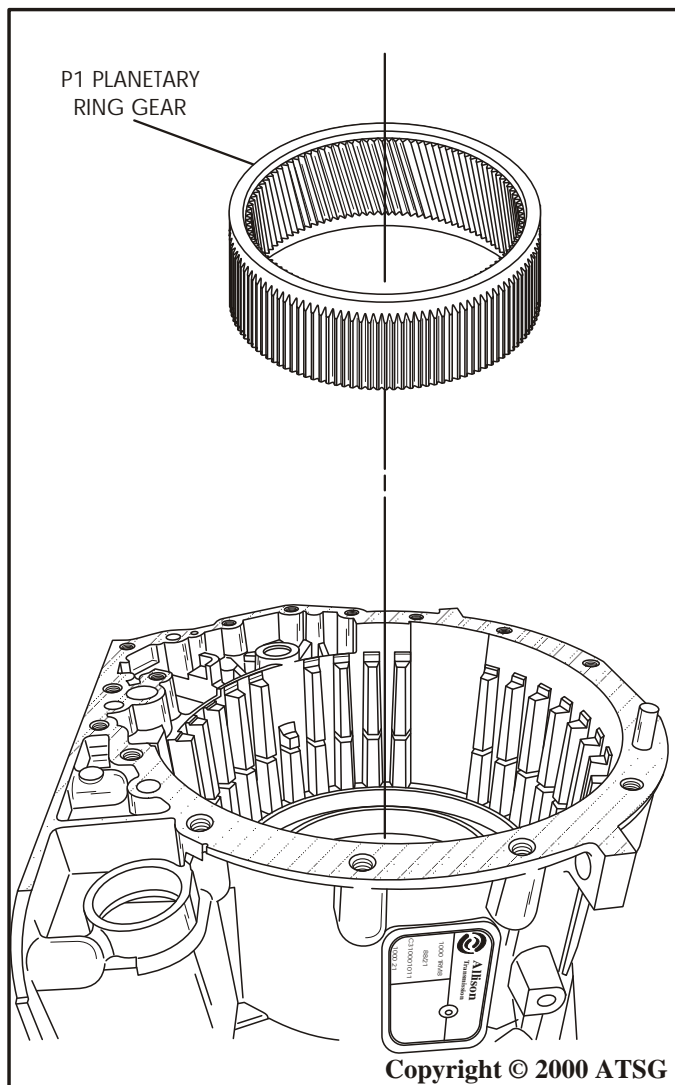

Figure 148
1. Rotate the transmission in the fixture so that the rear of the transmission is facing up, as shown in Figure 148.
2. Install P1 planetary ring gear into previously installed C3 lined plates, by turning back and forth, until ring gear teeth are engaged on all C3 plates and fully seated against the washer surface of C3 backing plate (See Figure 148).